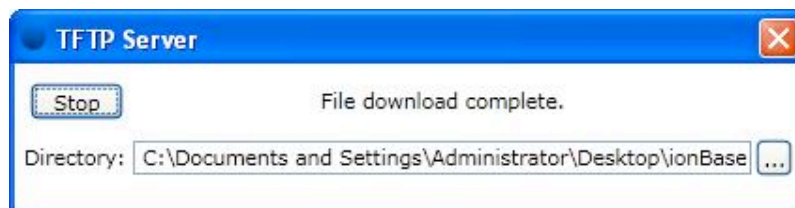

Figure 9-7: TFTP upload successful
- The TFTP utility will indicate success (see Figure 9-7) once the upload is complete.